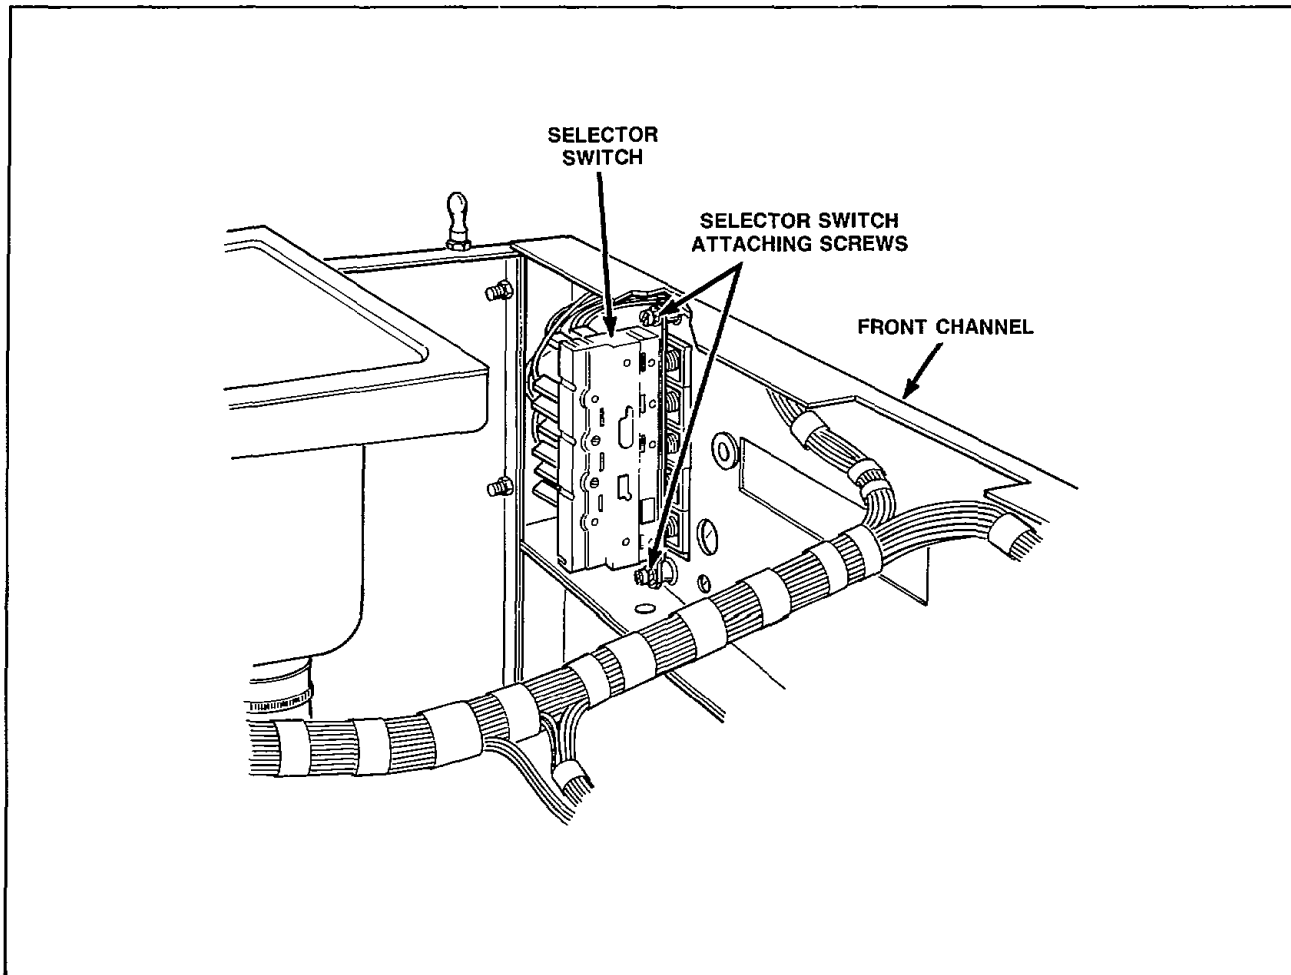

Figure 16
- e. Remove two screws and lockwashers holding the selector switch to the backside of the front channel, *Figure 16*.